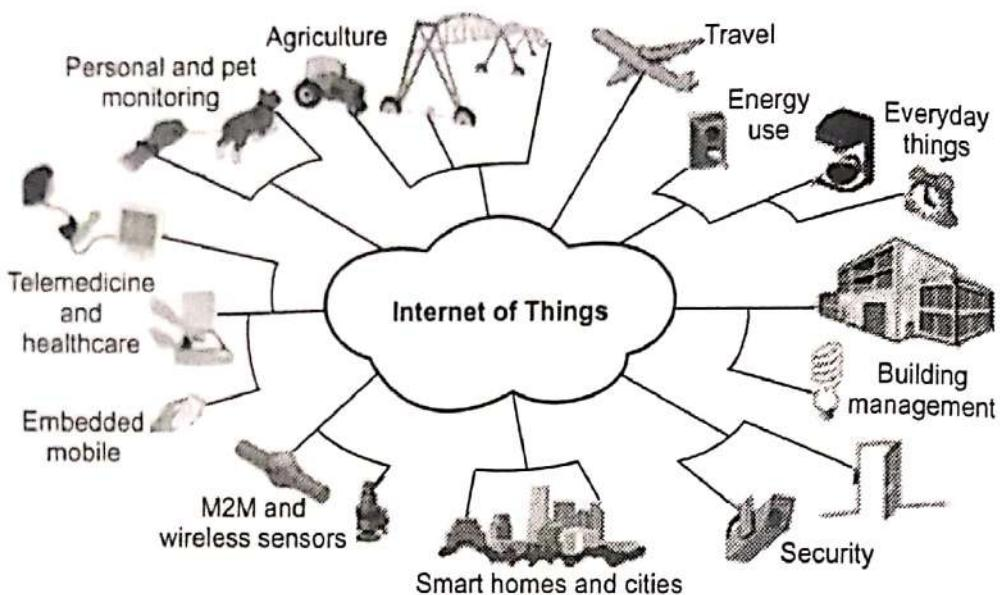

Fig. 1.2.1 : IoT devices
- Here "Things" is combination of software, hardware and services. Fig. 1.2.1 shows IoT devices.